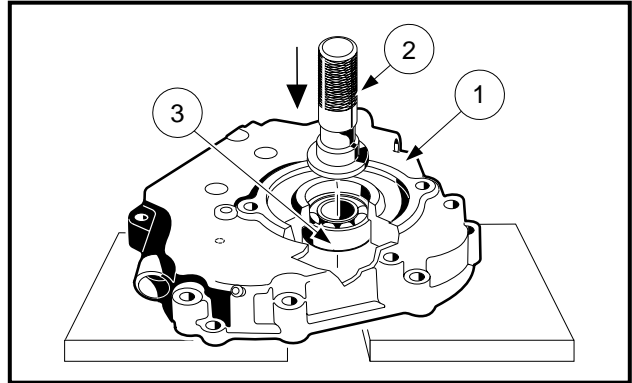

Figure 13-89 Ball Bearing Removal
2. Place the crankcase cover (1) on a bench with its outside up (gasket surface against bench) (**Figure 13-89, Page 13-41**).
3. Using a bearing driver (2) (Part of Club Car Bearing Driver Kit, Part No. 1016416), drive out the ball bearing (3) as shown.